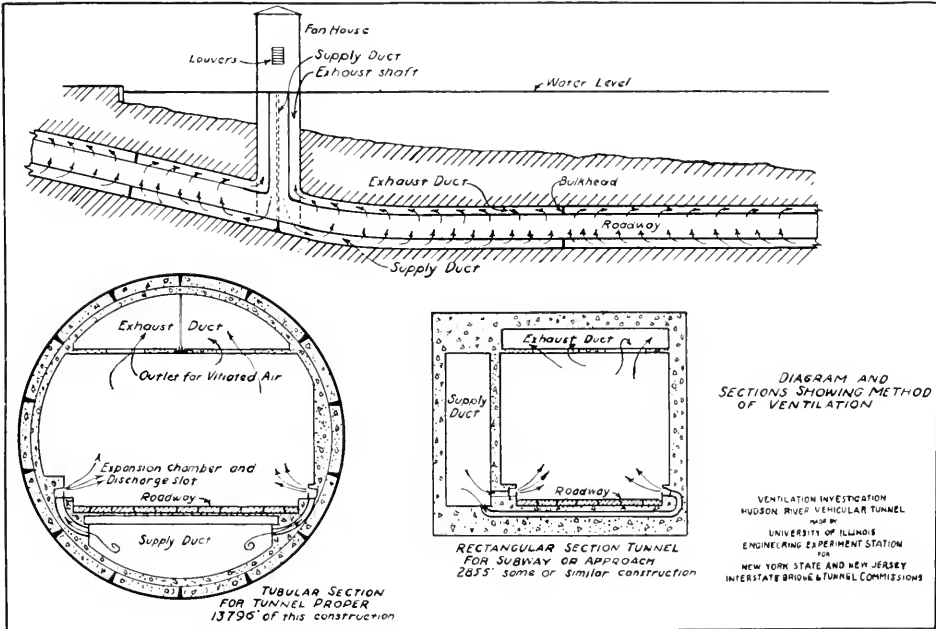

FIG. 11. DETAILS OF VENTILATING SYSTEM, HUDSON RIVER VEHICULAR TUNNEL
short radius throat as shown in Fig. 11, Elbow No. 1.
*Results of Tests—Small Right Angled Elbows.* The friction pressure losses in the elbows marked 1, 2, 3, 4 and 11 as shown in Fig. 11 are given by the curves in Fig. 13. These losses are expressed (Fig. 13) in heads measured in inches of water at average air and water temperatures of 95° F. and a barometric pressure of 29.40 inches of mercury. The heads as plotted represent the static pressure at the piezometer ring, which was about 30 inches ahead of the elbow, corrected for the friction head in the straight 6" x 18" pipe entering and leaving the elbow.
In the case of the venturi elbows, the departure tube leaving the elbow was 22 inches long and its friction loss is included in the elbow friction. The double venturi elbow having a venturi approach tube also, was found to be much worse than the single venturi elbow (4) (Fig. 11) and was abandoned after the first series of tests.